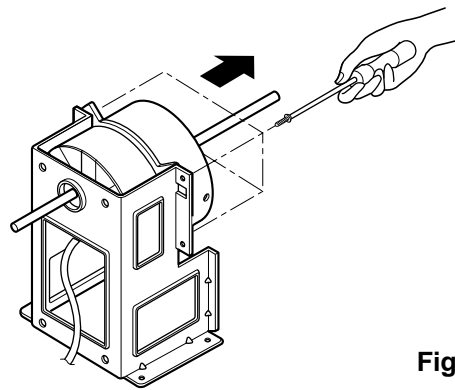

Figure 27
4. Remove the 4 screws that fasten the motor from the air guide. (See Figure 27)
6. Re-install the components by referring to the removal procedure, above.(See Figure 27)